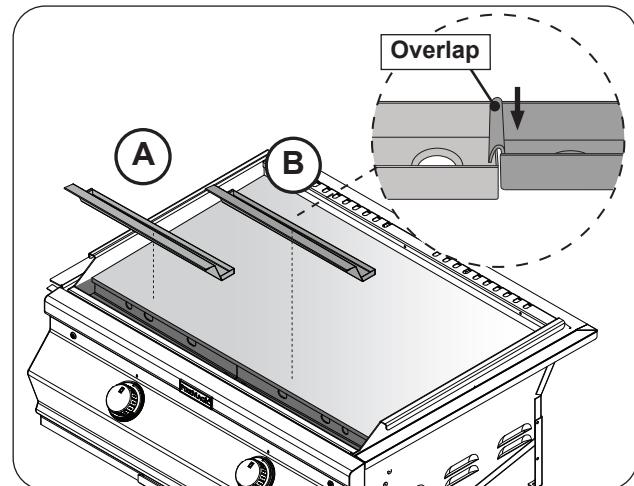

Fig. 33-1 Install drip collector trough
1. Place the left piece inside the griddle drip reservoir and completely slide it to the left side (see Fig. 33-1, A).
2. Place the right piece and ensure it overlaps the left tray as shown in Fig. 33-1, B.